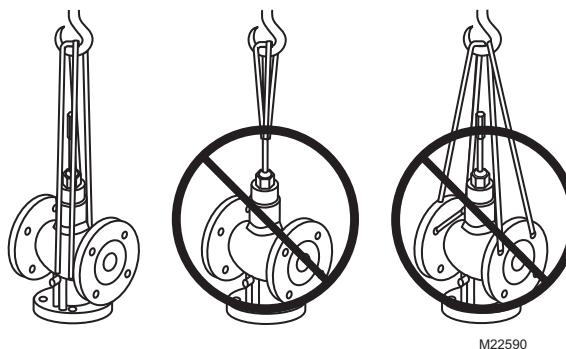

Fig. 8. Proper hoisting of VGF Valves.
The valves are to be installed by skilled personnel and in strict accordance with the installation instructions and local regulations. (See Fig. 8 for proper hoisting method.) Honeywell assumes no responsibility for damages or injuries resulting from non-compliance with installation instructions or standard good practice when mounting, operating, or maintaining the valves, even if not explicitly mentioned in the installation instructions. (See Fig. 10 for basic pipe orientation.) Observe all safety practices when working with steam systems.
1. Hoist valve by its body only. Do not lift by stem, bonnet, flanges, or flange holes. (See Fig. 8.)